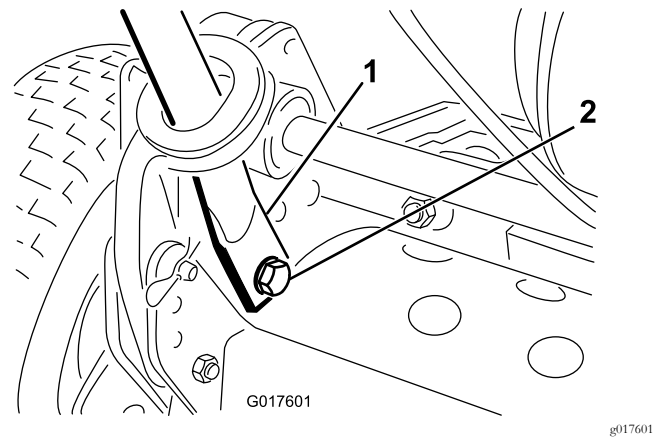

Figure 3
4. Squeeze the handle ends inward and install them on the mounting pins (Figure 3).
5. Secure the handle ends to the mounting pins with the bolts, washers, and lock washers previously removed (Figure 3).
6. Secure the handle arms to the rear of the frame with the hairpin cotters and the ring pins previously removed (Figure 3).